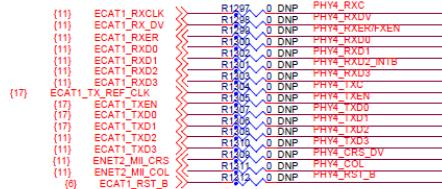

Figure 14. Resistor rework to support MII using ENET4
3. To use the *PHY4* in *MII* mode, resistor rework is required as shown in Figure 14.)